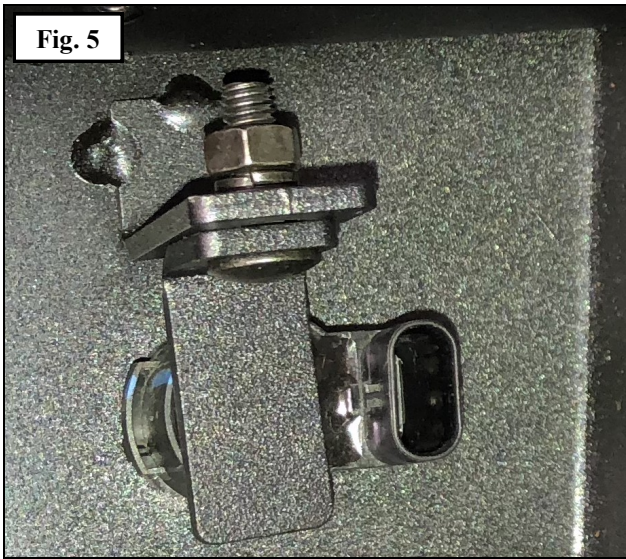

Fig. 5
6. Install parking sensors by inserting into the holes on bumper and pressing with L-tabs (2) against bumper plate. Fasten L-tabs with the supplied M6 hardware (15-18). **See Figure 5.** Use supplied double sided tape between sensor and L-Tab to keep the sensor from rotating.
7. Use items 23 and 24 to secure sensor in place.